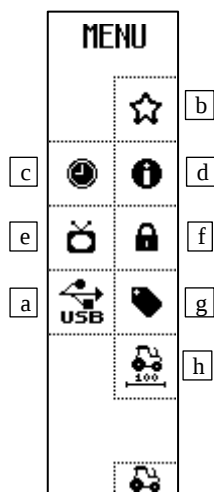

Fig. 8
- 4) Menu button: all the functions available here are shown and described from Fig. 8.